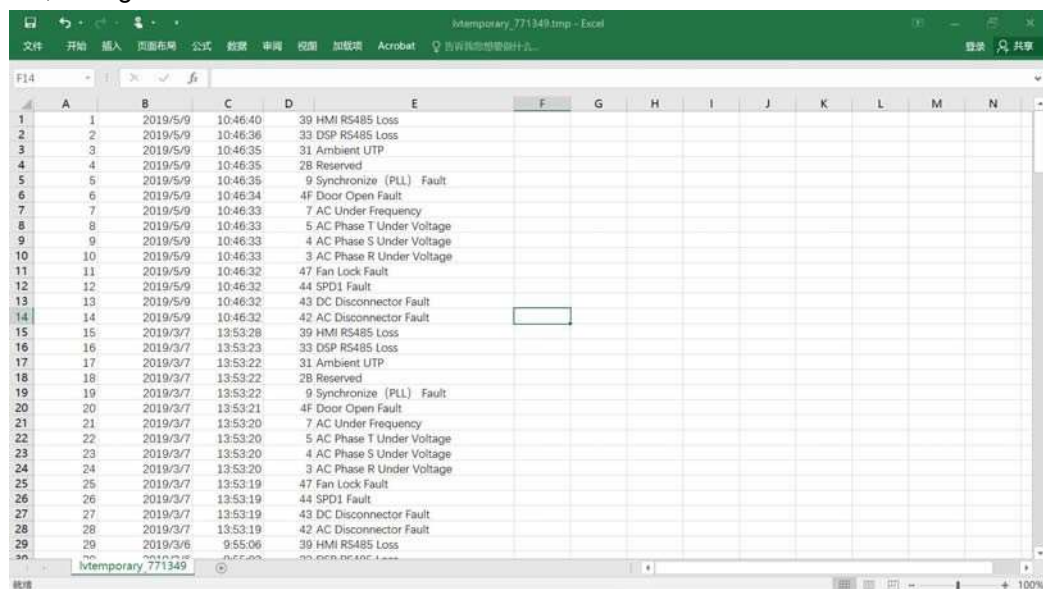

Figure 41. Temporary Data File
Step 2: Select **Export data to Excel** from the **Export** option and click the left mouse button. The Microsoft Excel application will open automatically and the data will be stored in the temporary file, as Figure 41.